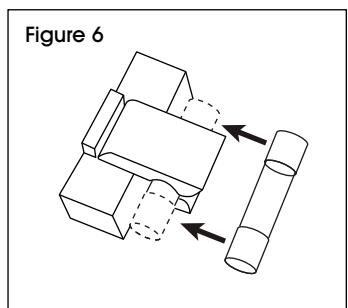

Figure 6
2. Remove old fuse and insert new fuse. (See Figure 6)